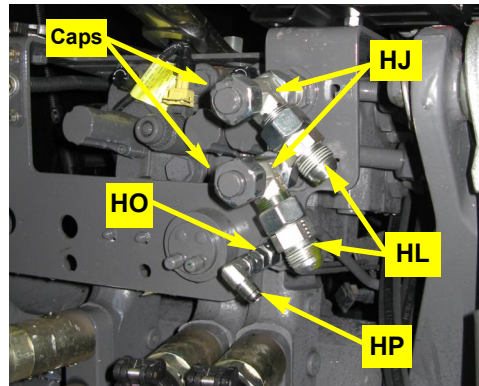

Figure 3b: Pressure, tank and second load sense adapters installed
- c. Install adapters **HL** on the stems of run-tees **HJ** and adapter **HP** on **HO** in the **LS** port (Figure 3b).